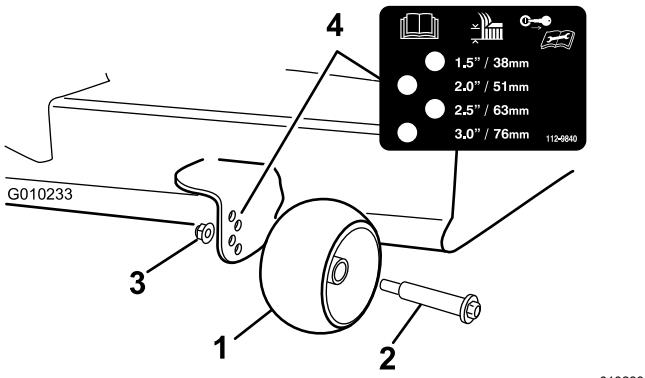

Figure 29
- Adjust the anti-scalp rollers (Figure 29) to match the closest height-of-cut position.